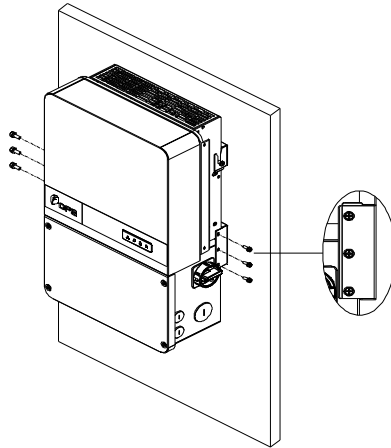

Figure 3-9 Secure the Main Enclosure and Wiring Box to the Bracket
4. Attach the main enclosure and the wiring box to the mounting bracket with the **M6x18 screws** (6 pcs). (see Figure 3-9)